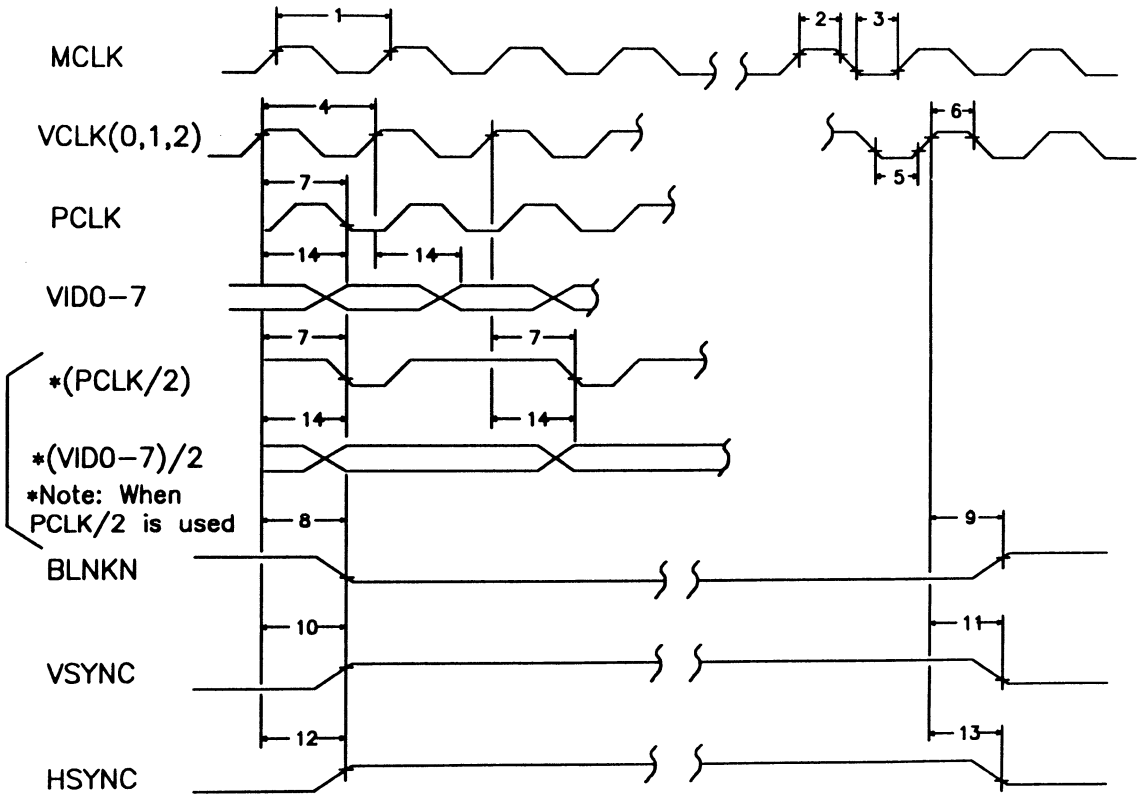

FIGURE 15
**CLOCK AND VIDEO SIGNALS TIMING DIAGRAM ( See Figure 15 )**